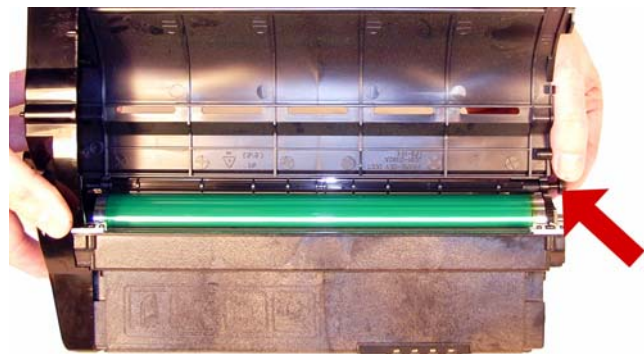

Figure 61
55) Make sure the small round black plastic rod is in place, install the small drive gear. (This is the gear that came loose when the end cap was removed). See **Figure 61**